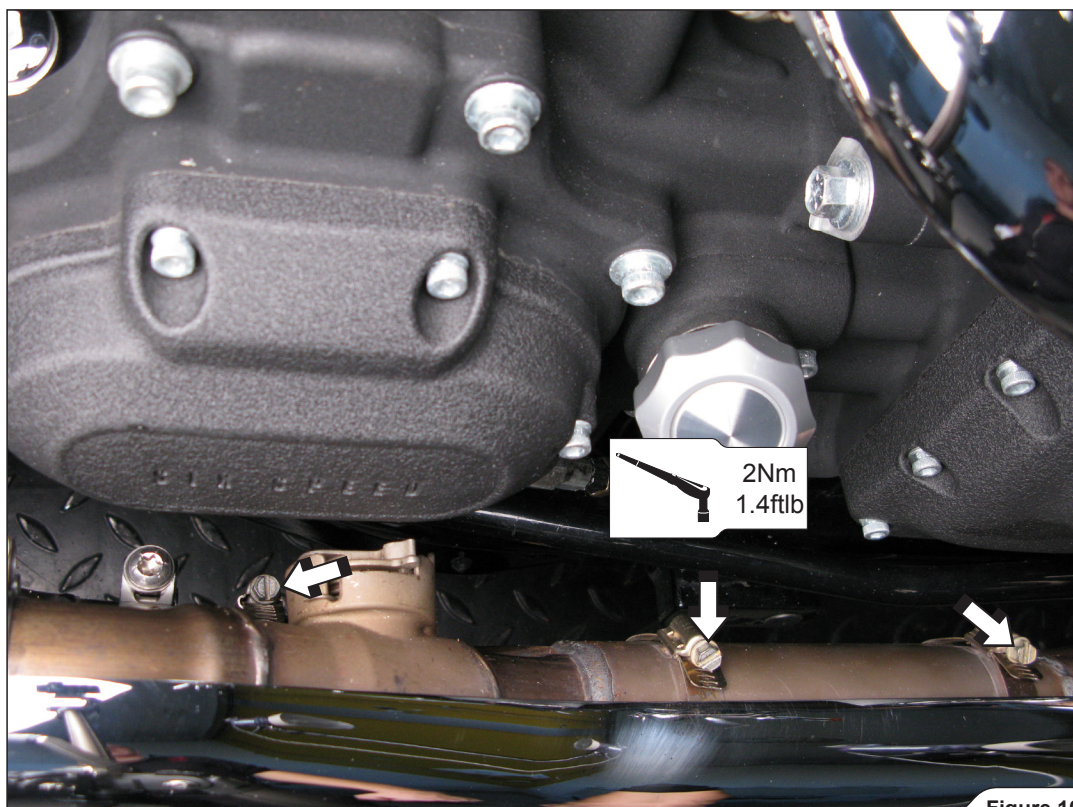

Figure 10
5. Align the original heat shield and tighten the tape clamps (**Figure 10**).